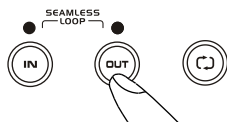

fig.6
- b- Next, press OUT BUTTON to return to normal play (figure 6). This disengages the SEAMLESS LOOP mode.